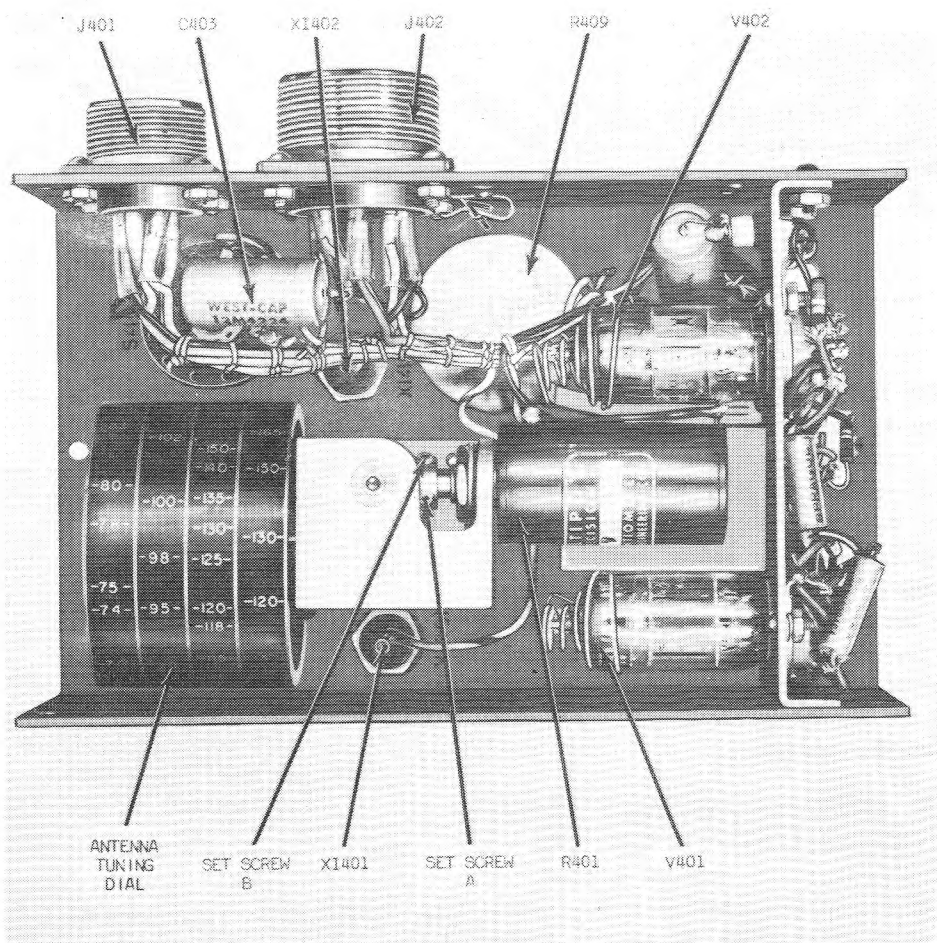

Figure 5-7. Antenna Control C-1246/ALA-6, Tube and Pilot Lamp Location
5-16. ANTENNA CONTROL C-1246/ALA-6 AND ANTENNA ASSEMBLY AS-654/ALA-6. To inspect the Antenna Control, first take off the bottom cover by removing the six screws which hold it, one at each side of the control panel and one at each lower corner of the unit. See figures 5-7 and 5-8. Press the tubes firmly in place, check the tube spring-retainers, inspect the soldering and give the unit a thorough inspection like that for the Indicator and Power Supply, as described above. Remove the cover from Antenna Assembly AS-654/ALA-6 by removing six screws, two at each end of the cover and one at each side. Give the wiring and components a similar inspection.
- Step 11. If not, adjust the helipot R401 (figure 5-7) to compensate for the difference by loosening the setscrews on its shaft (figure 5-7, set screws A and B), and then retightening them securely at the position which is correct.
- Step 13. If roughly accurate tracking can be obtained on all checks, the tuning system is OK. If not, refer to table 5-2, item 14, for possible remedy; or replace Antenna Control C-1246/ALA-6 and/or Antenna Assembly AS-654/ALA-6.